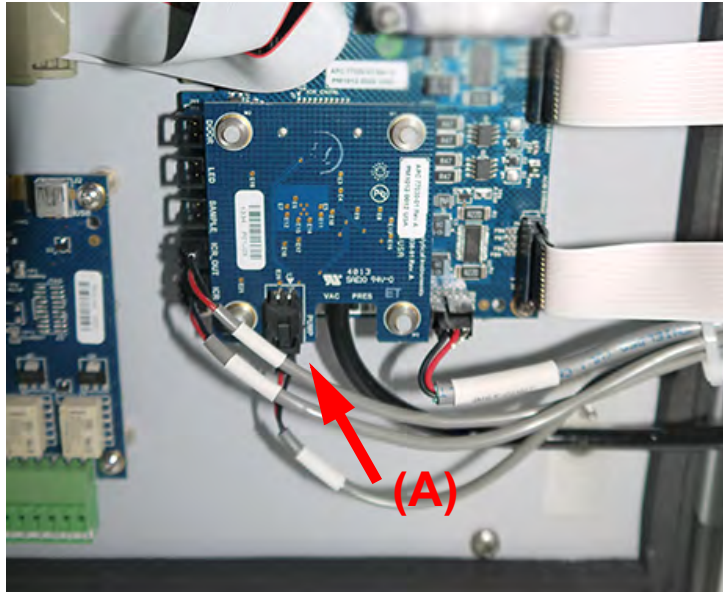
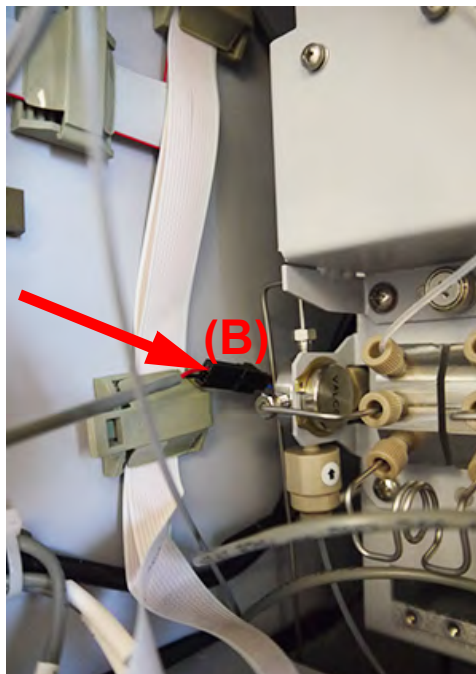

Figure 63: Electronics on Door
Figure 64: Jumper Cable Connection for ICR Pump
3. Remove the panel off the back of the door to locate and identify the ICR pump cable connection (**A**), (Figure 63). After locating the connection, follow the cable back inside the Analyzer and disconnect the cable at the jumper cable (**B**), (Figure 64).